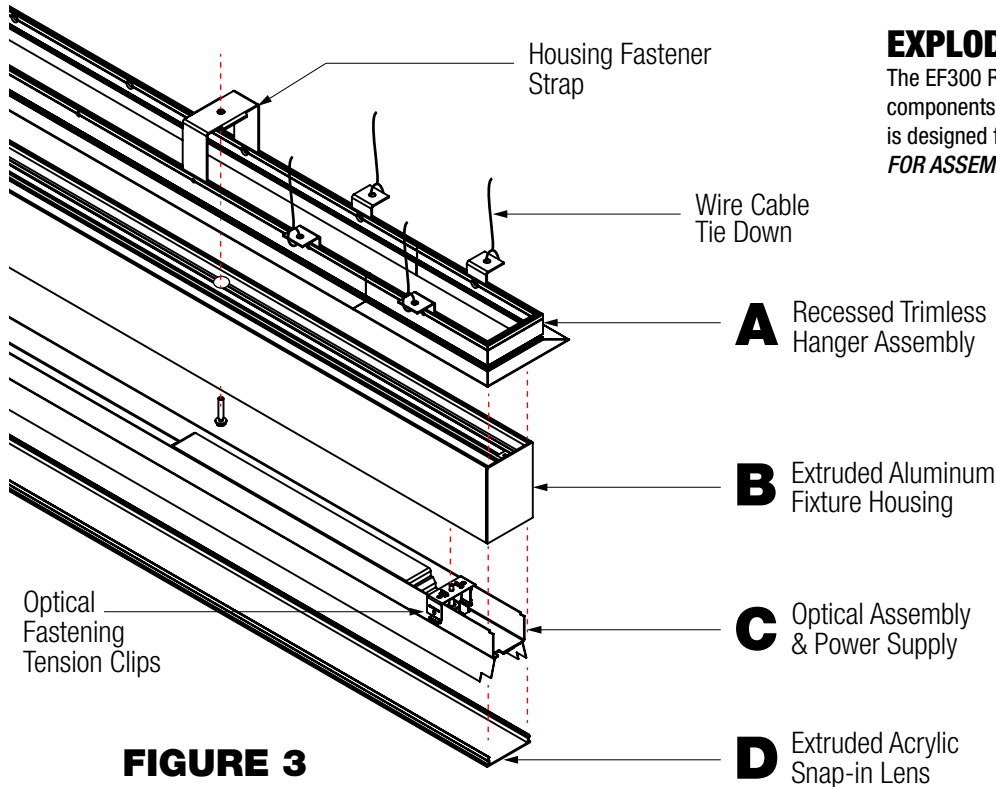

FIGURE 3
ASSEMBLY NOTE: The EF300 Recessed Series primarily consist of 4 major components A, B, C, and D. See Fig. 2 & Fig. 3. This system is designed for ease of installation. *IT IS IMPORTANT TO READ INSTRUCTION SHEET COMPLETELY BEFORE INSTALLATION.*
1. INSERT OPTICAL & POWER SUPPLY ASSEMBLY by inserting up into the housing cavity. There is a tension clip on each side of driver housing, squeeze/compress and push up past inner housing tabs and release. This will lock assembly into place See Fig 3.
The EF300 Recessed Series primarily consist of 4 major components A, B, C, and D. See Fig. 2 & Fig. 3. This system is designed for ease of installation. FOR ASSEMBLY SEQUENCE SEE PAGE ONE.